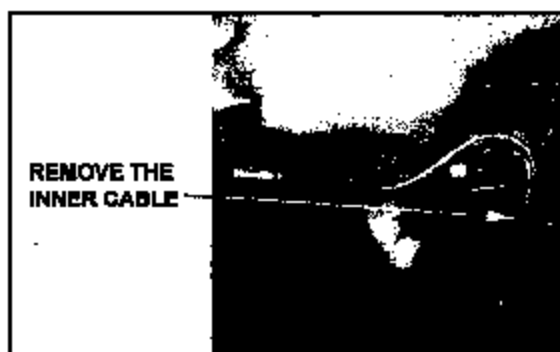

Figure 2
2. Remove the inner cable from the throttle body cam (see figure 2).